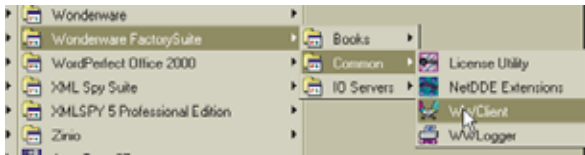

FIG. 229: WONDERWARE/SELECTING WWCLIENT
- Step 3. Open Wonderware WWClient. (See Fig. 229)